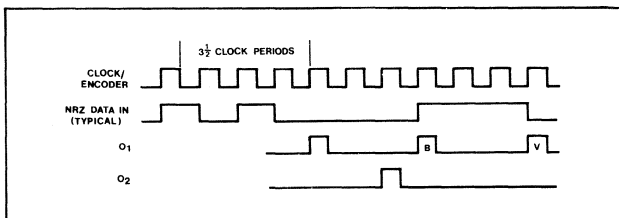

Fig. 3 Encode waveforms
- The Encoded ternary outputs ( $O_1, O_2$ ) are delayed by  $3\frac{1}{2}$  clock periods from NRZ data in (Fig.3)